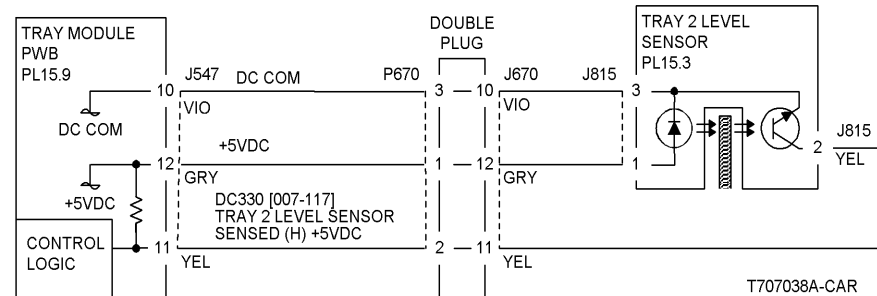
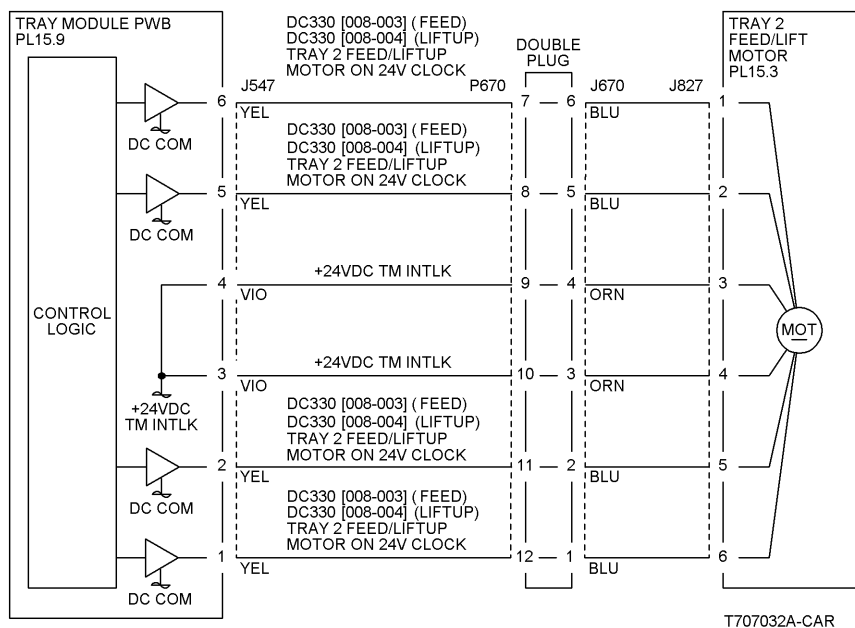

Figure 4 7-282 RAP Circuit Diagram - Tray 2 Level Sensor (3TM)
Figure 3 7-282 RAP Circuit Diagram - Tray 2 Feed Lift Motor (3TM)
- Go to the +5VDC Wirenets (Figure 4) to troubleshoot the power circuit.
Press **Stop**. Check the circuit of the Tray 2 Feed/Lift Motor (Figure 3). Check the wires from the Tray Module PWB to the Tray 2 Feed/Lift Motor for an open circuit. If the wires are good, replace the Tray 2 Feed/Lift Motor (PL 15.3). If the problem still exists, replace the Tray Module PWB (PL 15.9)
Press **Stop**. Check the circuit of the Tray 2 Level Sensor (Figure 4). Refer to the OF 99-2 RAP for troubleshooting procedure.
- Ensure that the connectors shown in the circuit diagrams (Figure 3, Figure 4) are securely connected and that the wires are not damaged.